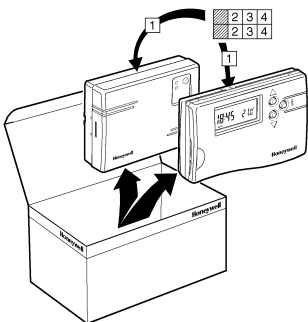

Fig.2 Marking the room unit and the zone controller as a pair.
- Mark the room units and relay boxes (zone controllers) from system packs using [1], [2], [3], [4] labels supplied (see Fig.2). Leave the HC60NG boiler controller unmarked.